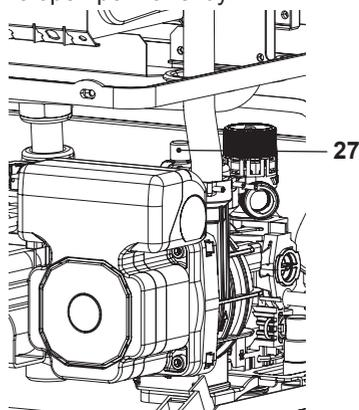

Fig. 7.2
- Loosen the cap on the automatic air purger valve 27 in Fig. 7.2 one full turn and leave open permanently.